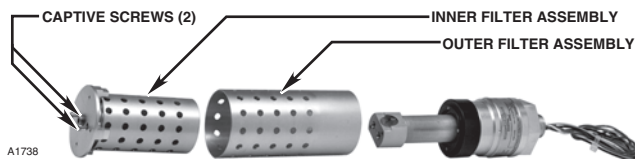
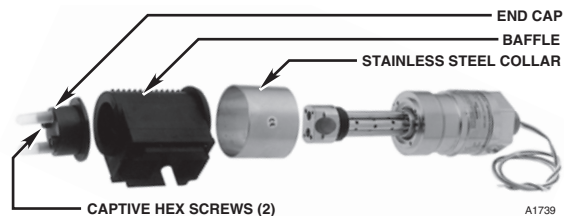

Figure 10—Aluminum PIR9400 Disassembly
Figure 11—Stainless Steel PIR9400 Disassembly
1. Completely loosen the captive screws on the flat end of the detector using the appropriate tool (flatblade screwdriver or Allen wrench) and slide off the weather baffle assembly. See Figures 10 and 11.
- For the aluminum model, slide the outer filter assembly over the mirror assembly. The outer filter should be oriented with the solid portion toward the base of the detector. If it is not oriented correctly, the filter assembly will not slide onto the unit. Slide the inner filter assembly into the outer filter assembly and rotate until it is seated securely, then fasten the two captive screws using the appropriate tool. See Figure 10. For the stainless steel model, slide the stainless steel collar onto the base assembly, then slide the baffle onto the unit. Place the end cap on the baffle and rotate it until it is seated securely, then fasten the two screws using the appropriate tool. See Figure 11.